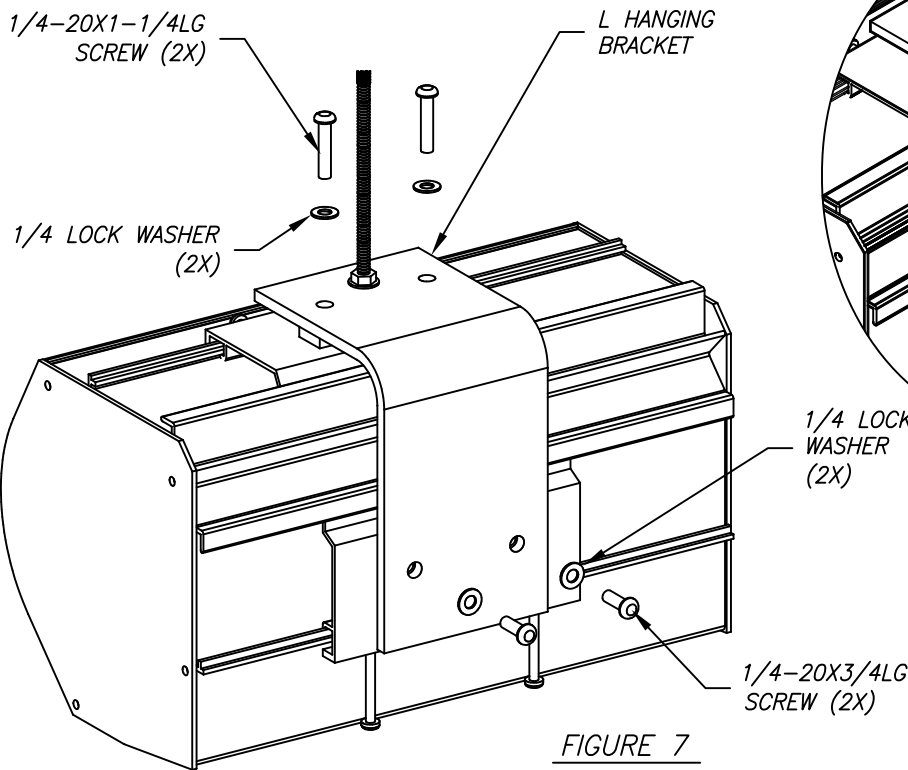
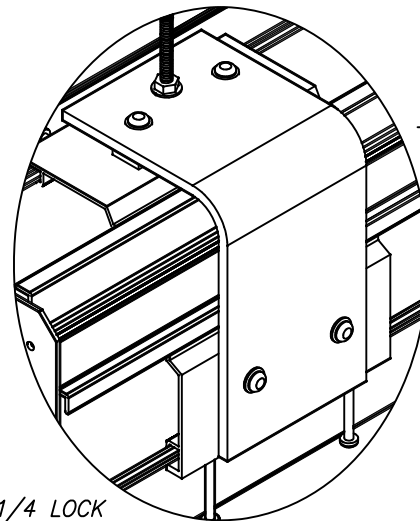

FIGURE 7
FIGURE 8
- 1 - FASTEN L HANGING BRACKET TO HANGING BRACKETS AS SHOWN IN FIGURE 7.
- 2 - THREADED ROD OPTION SHOWN IN FIG 7 AND EYE BOLT OPTION SHOWN IN FIGURE 8.